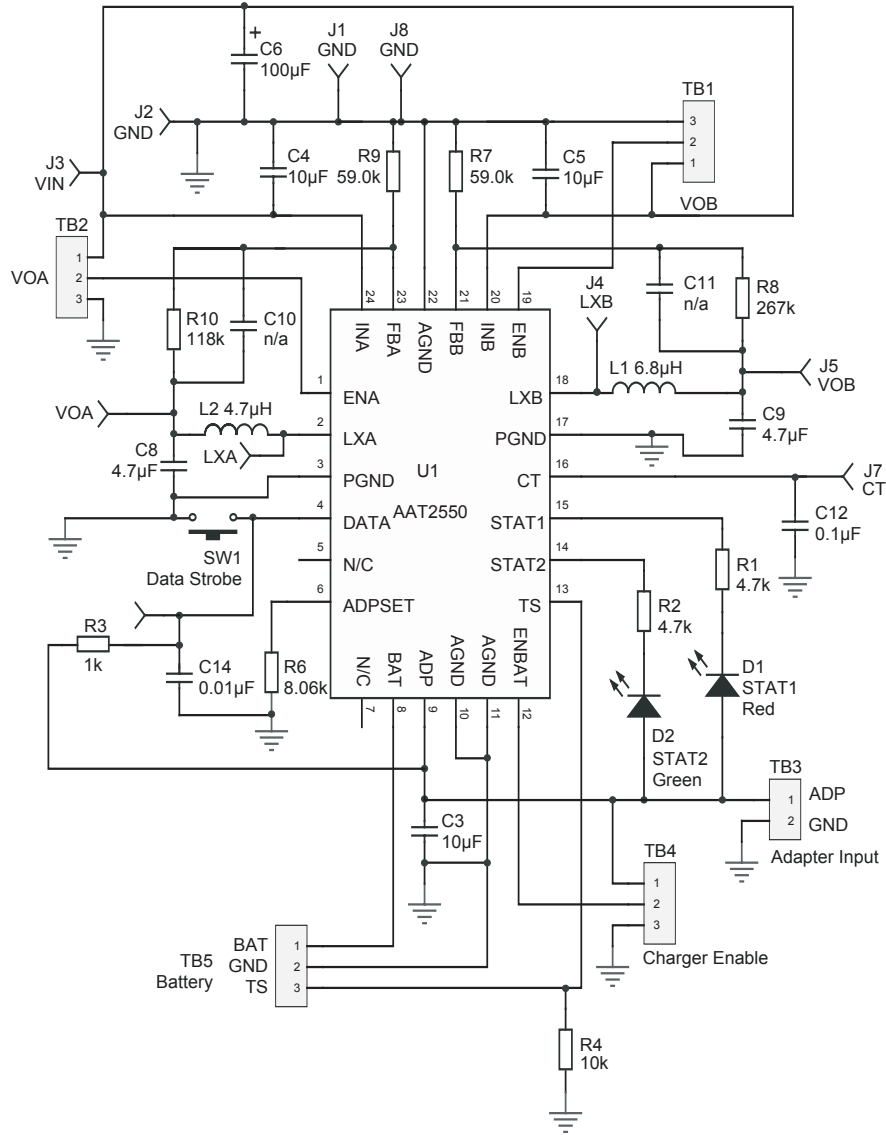

Figure 4: AAT2550 Evaluation Board Schematic.
The adjustable version of the AAT2550, combined with an external feedforward capacitor (C10 and C11 in Figure 4), delivers enhanced transient response for extreme pulsed load applications. The addition of the feedforward capacitor typically requires a larger output capacitor for stability.
1. Step-down converter bypass capacitors (C4 and C5 in Figure 4) must be placed as close as possible to the step-down converter inputs.